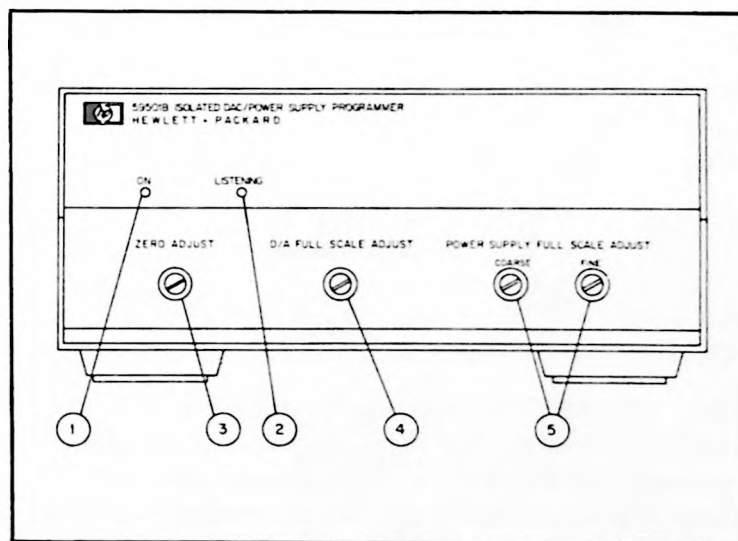

Figure 3-1. 59501B Front Panel
3-7 The 59501B front panel contains a power on indicator, a status indicator and four controls (screwdriver adjustments) as shown in Figure 3-1.
3-8 The power on (ON) indicator ① (Figure 3-1) lights and the 59501B's internal supply voltages (+15V, $\pm 15V$, V_{dd}) are present when the line cord is plugged-in.